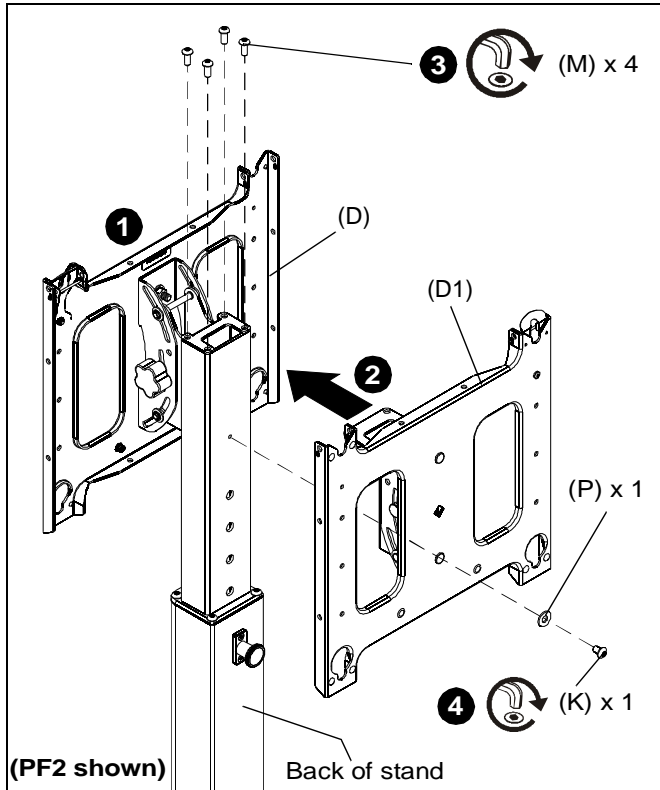

Figure 8
1. Slide front head assembly (D) or (E) into the stand assembly. (See Figure 8)
2. Place back head assembly (D1) or (E1) on the back of the stand assembly, and on top of the front head assembly. (See Figure 8)
3. Use four 5/16-18 x 3/4" button head cap screws (M) to fasten through both head assemblies. (See Figure 8)
4. Fasten through back head assembly (D1 or E1) and back of stand assembly using one 1/4-20 x 3/8" button head cap screw (K) and one 1/4" washer (P). (See Figure 8)